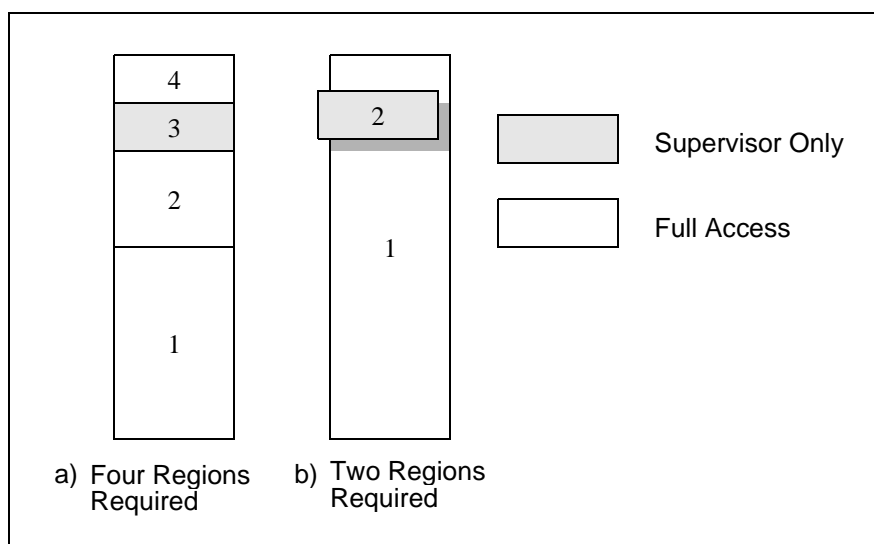

Figure 7-8: Use of overlapping memory regions
This is as shown below in **Figure 7-8: Use of overlapping memory regions**.
- one 32KB region for the user code, as shown in **Figure 7-8: Use of overlapping memory regions**